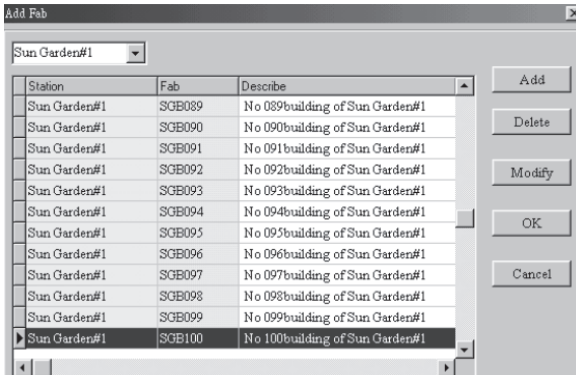

Fig. 4.9
2.3. Repeat the above operations and add 100 controllers into the Station Sun Garden #1 one by one as in Fig. 4.9.